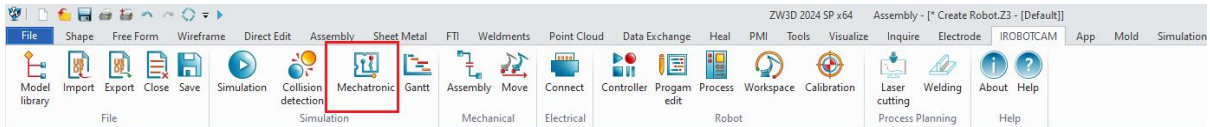

Figure 8-10: Mechatronic
- Go to the "IROBOTCAM" tab add click the "Mechatronic" button. (Figure 8-10)